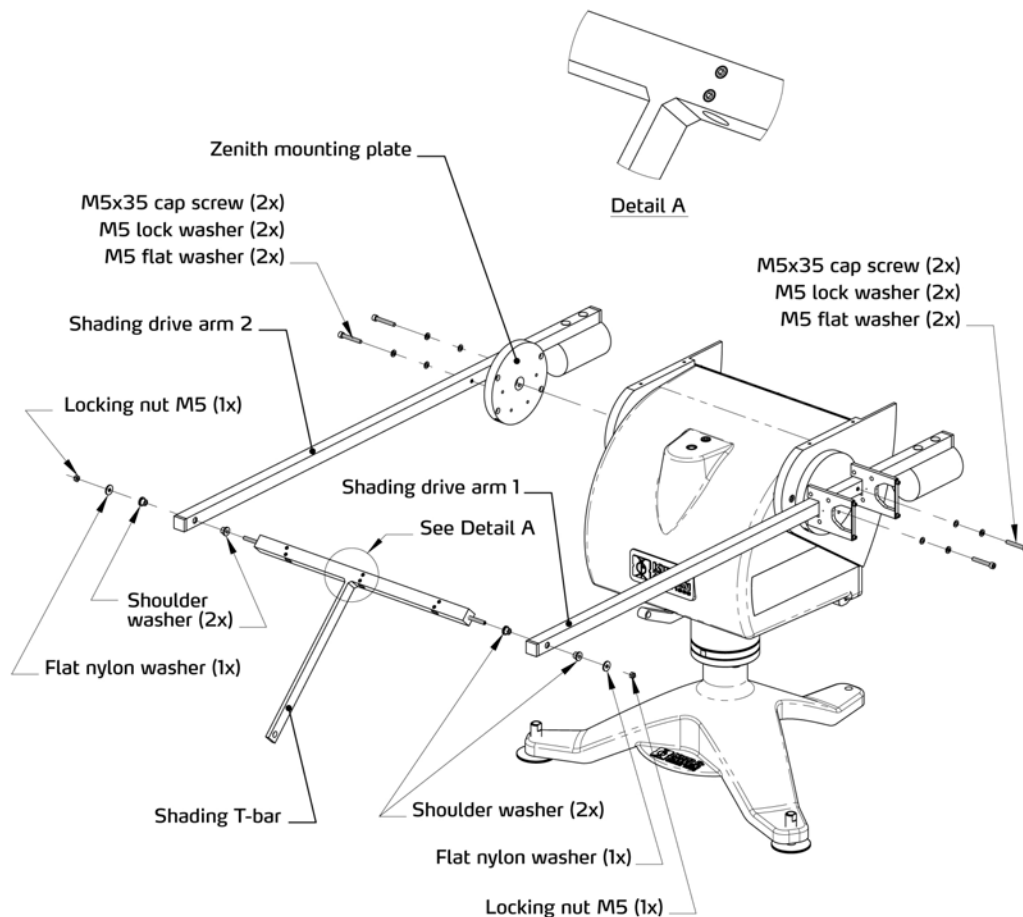

Figure 4.8: Mounting of shading drive arms
- Attach both the Shading Drive Arms with the designated screws. Ensure the counter weights are facing down. Do not completely tighten the screws yet, some movement for installing the T-bar is required, see figure 4.8
- Tighten the Side Arm screws and mount the second side plate to the axis with its two screws (see figure 4.8) after aligning the two Shading Drive Arms.